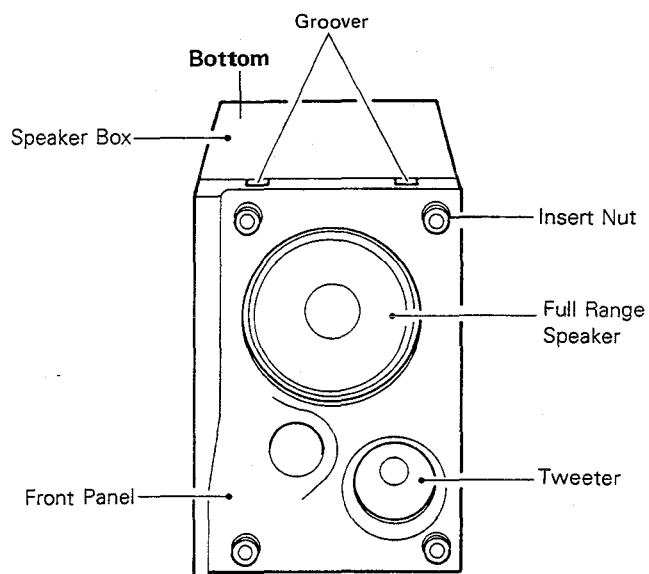
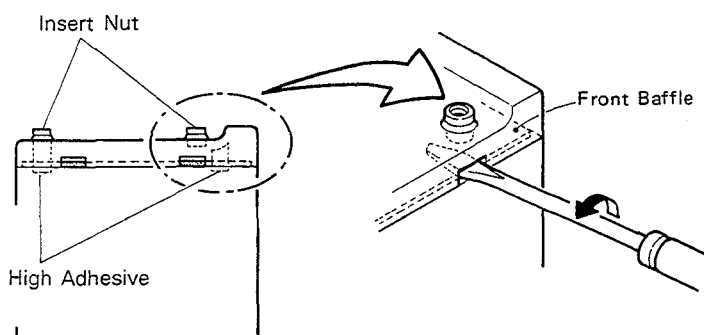

Fig. 7-28
Fig. 7-29
2. Stand the speaker box upside down as shown in Fig. 7-28.
3. Insert an ordinary (—) screwdriver into the right hole shown in Fig. 7-28 and Fig. 7-29 and push the bottom end of the insert nut upward.